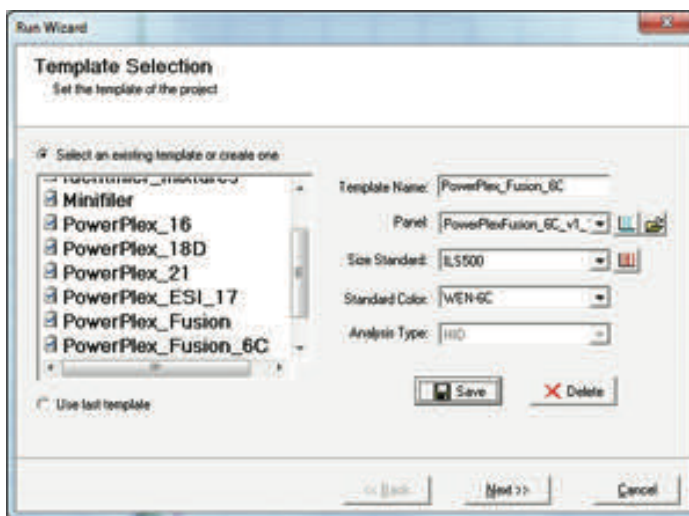

Figure 24. The Template Selection window.
9. Click the Run Project icon (green arrow) in the toolbar, and the Template Selection window will appear. Select the PowerPlex_6C_Fusion template and the settings shown in Figure 24. Choose the panel that you created in Step 7 from the drop-down menu. Verify selection of Size Standard ILS_500 and Standard Color WEN. Select “Next”.